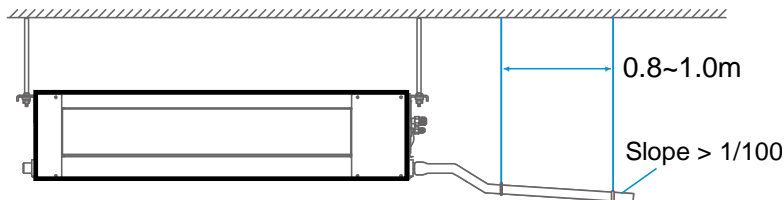

Figure 2 Method to connect the water discharge piping for a single unit
- There should be no angle between the air inlet grille and the direction of the air inlet; otherwise the noise level will increase. Figure 2 shows the incorrect way of making the air inlet panel.
Connection of drainage pipe (see Figures 2 and 3):